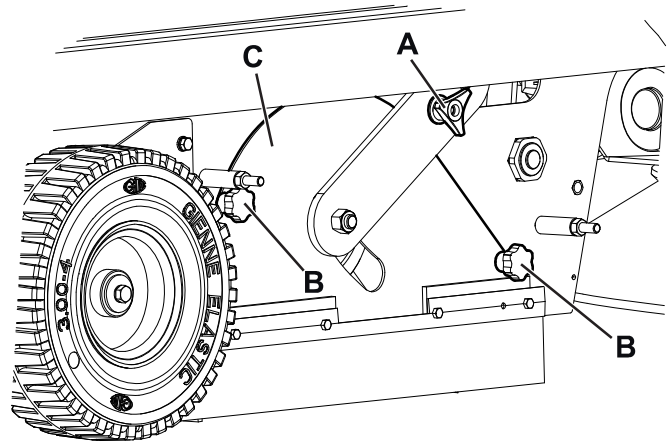

Figure 4
2. Turn the ignition key (72) to "0".
3. Unscrew the knobs (23) and remove the right door (22).
4. Loosen the knob (A, Fig. 4).
5. Unscrew the knobs (B, Fig. 4) and remove the broom compartment cover (C).
10. Install the broom compartment cover (C, Fig. 4) and tighten the knobs (B) and (A).
11. Install the right door (22), then tighten the knobs (23).